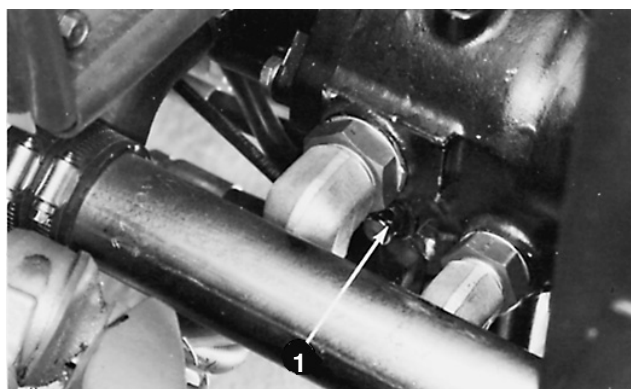

Figure 31
1. Bypass valve is located in left side of variable displacement pump (Fig. 31). Rotate the valve 1/2 to 1 turn counterclockwise to open and allow oil to by-pass internally. Because fluid is bypassed, the machine can be **slowly** moved without damaging the transmission.